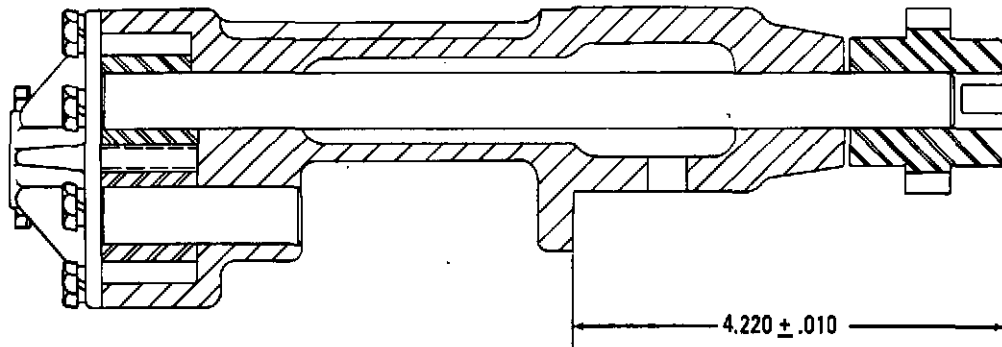

Figure 5-5. Oil Pump Drive Gear Installation Dimensions
1. Press drive shaft gear (12) onto the drive shaft (13) so that the outside face of the gear and the end of the shaft are flush. Once removed, do not press old parts back together.
2. Insert the assembled shaft and gear into the pump body (16). Press the drive gear (7) onto the shaft. Replace gear that can be pressed onto the shaft with less than 35 pounds pressure. Press the gear onto the shaft to the dimensions shown in figure 5-5.